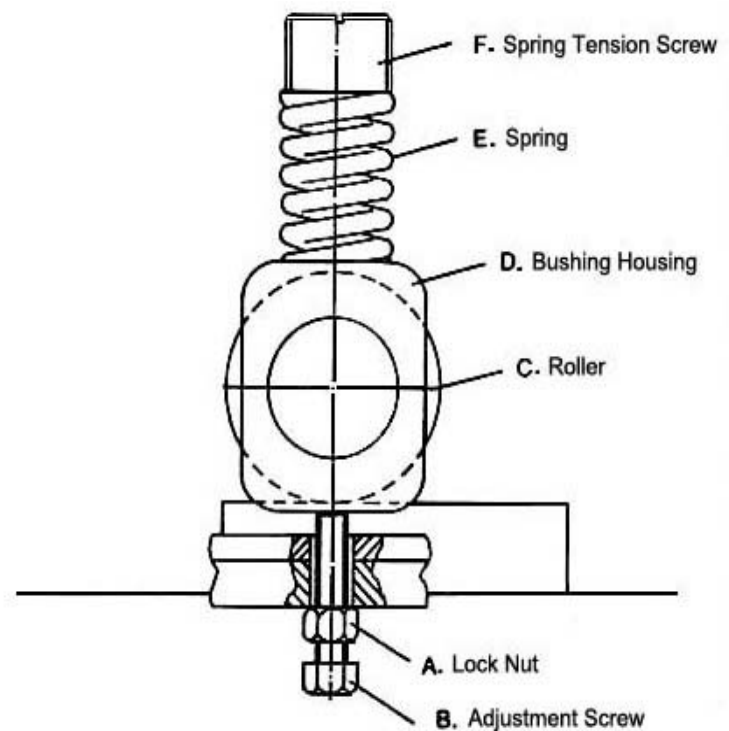

Fig. 13
4. If an adjustment to the outfeed roller is necessary, loosen the lock nut (A) and turn screws (B) until the outfeed roller just touches the square block. Then tighten lock nut (A) as shown in Fig. 13.
Adjust the spring tension of the infeed and outfeed rollers by turning the spring tension adjustment screw (F) as shown in Fig. 13.